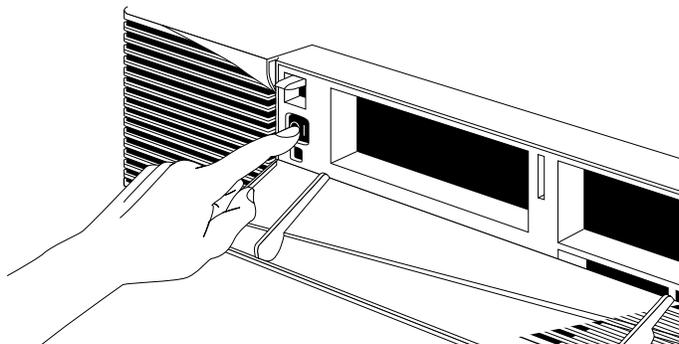

Figure 19 Turning on the Indigo² workstation.
- Press the power switch to turn on the system, as shown in Figure 19.